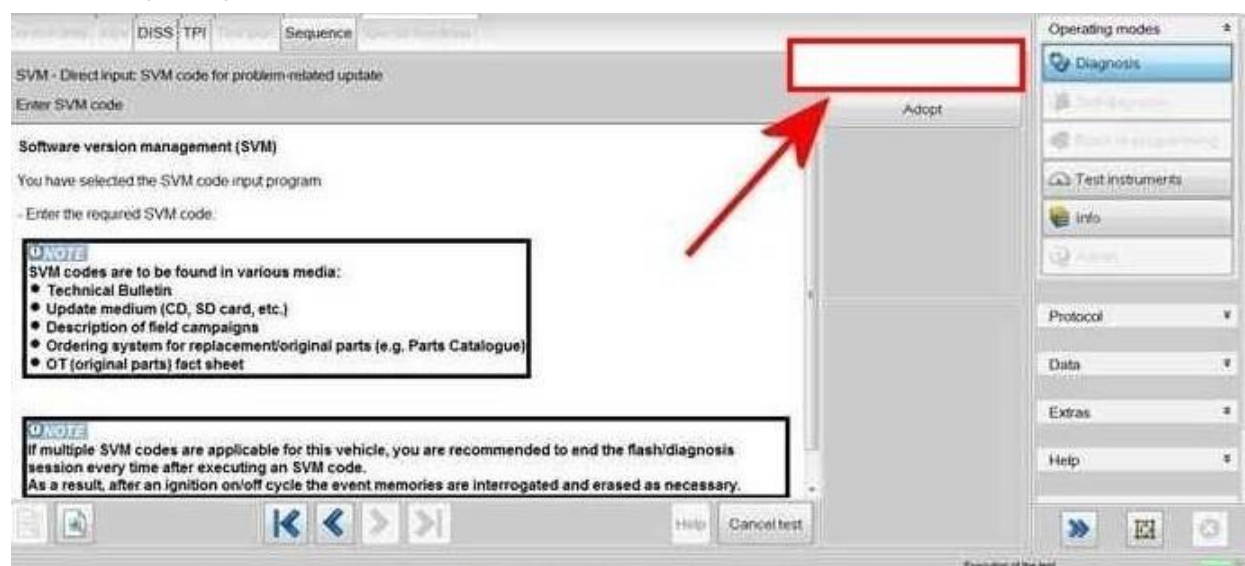

Figure 2
5. Referring to Figure 2 - Enter SVM code 370FTM01